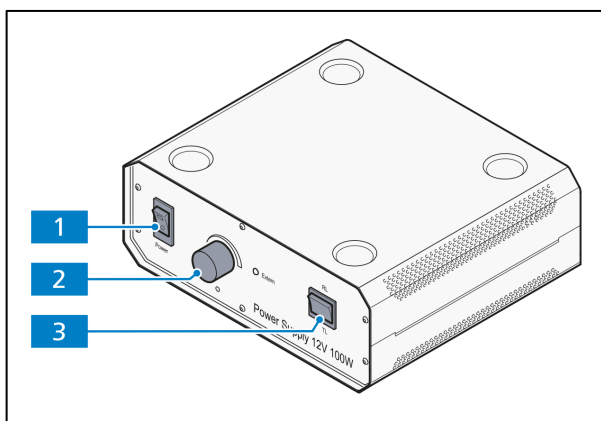

Fig. 4-14 External power supply unit for HAL 100
(3) Setting the reflected light brightfield
- When the halogen illuminator is used: Switch on the HAL 100 halogen illuminator on the external power supply unit (Fig. 4-14/1).
- Move the toggle switch (Fig. 4-14/3) to the **RL** position for reflected light.
- Adjust the light intensity with the control button on the external power supply unit (Fig. 4-14/2).